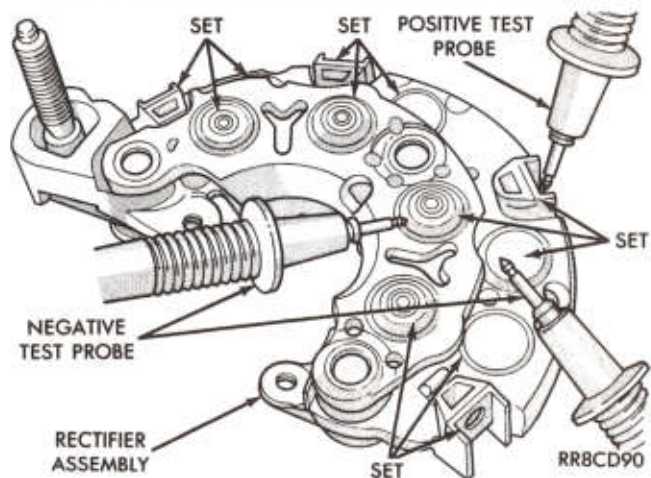

Fig. 9—Testing Diodes
(3) With an analog ohmmeter or DVOM diode tester, negative test probe to stator terminal and positive test probe to negative diode location, test for resistance (7 to 11 ohms or .4 to .6 volt drop). Then place the positive test probe on the positive diode location, NO continuity should be detected. Perform the preceding procedure on each stator terminal to diode set (Fig. 9).